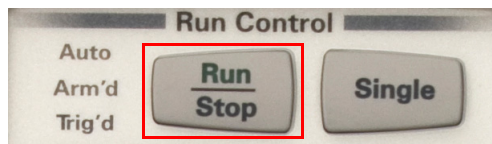

Figure 2-22 Run/Stop button in the Run Control section
- 1 Press  in the Run Control section as shown in Figure 2-22 to start a continuous data acquisition of the waveform.